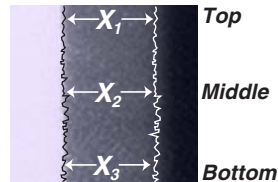
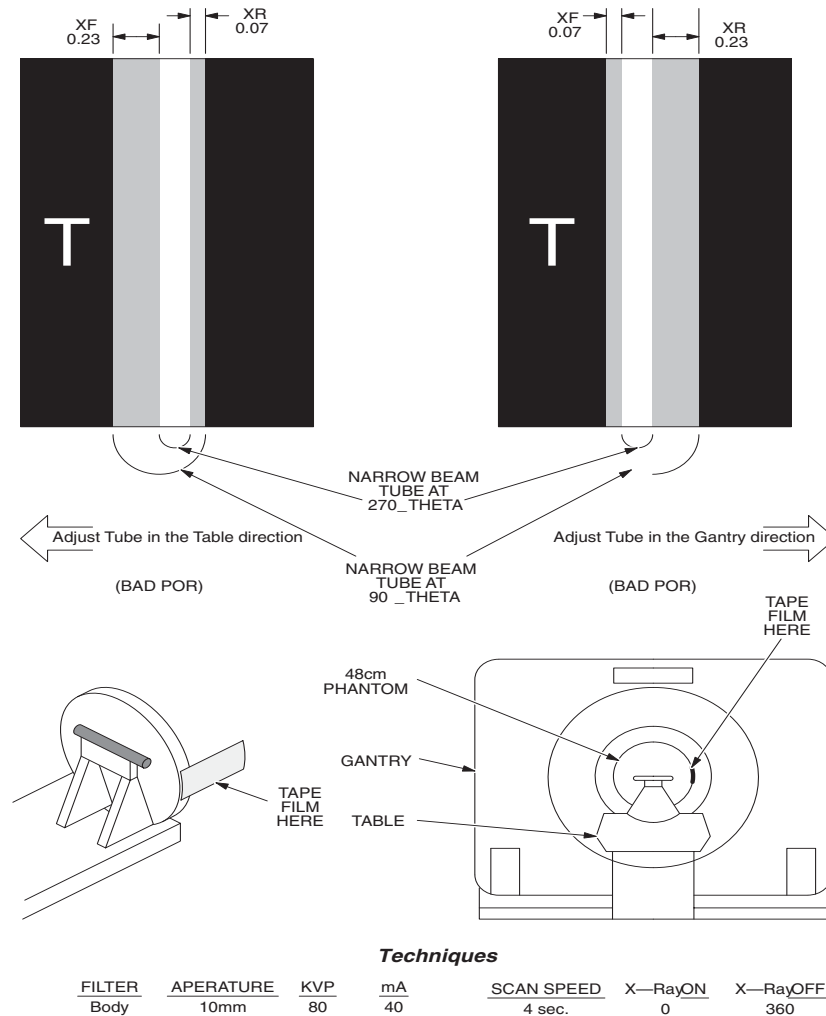

Figure 3-10 XF and XR measurement points
Figure 3-11 PLANE OF ROTATION FILM INTERPRETATION
- 2.) Refer to Figure 3-11 in the instruction that follow. Attach a “Polaroid type 52” film on the outside edge of the 48cm phantom at the 3:00 o'clock position.
- 8.) Remove the exposed film and immediately mark the outside of the film nearest the table. In Figure 3-11, table side is marked by the “T” on the film. Now go and develop the exposed film. After the film is developed, transfer the table marking to the film itself while keeping the orientation correct.
- 10.) Refer to Figure 3-10 and Figure 3-11 for the following instructions. Use a Vernier Calipers to measure the width of the 2 wider (dark gray) slits. They’re the dark gray slits that extend past